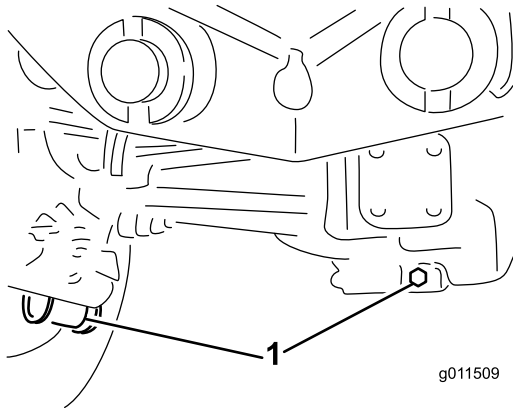

Figure 63
2. Clean the area around the 3 drain plugs; 1 on each end and 1 in the center (Figure 63).